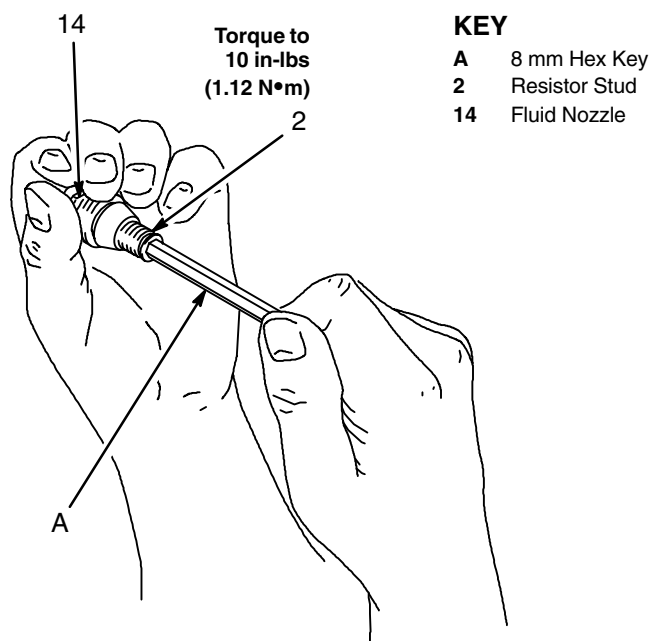

Fig 16
2. Using an 8 mm hex key (A), unscrew and remove the resistor stud (2). See Fig 16 .